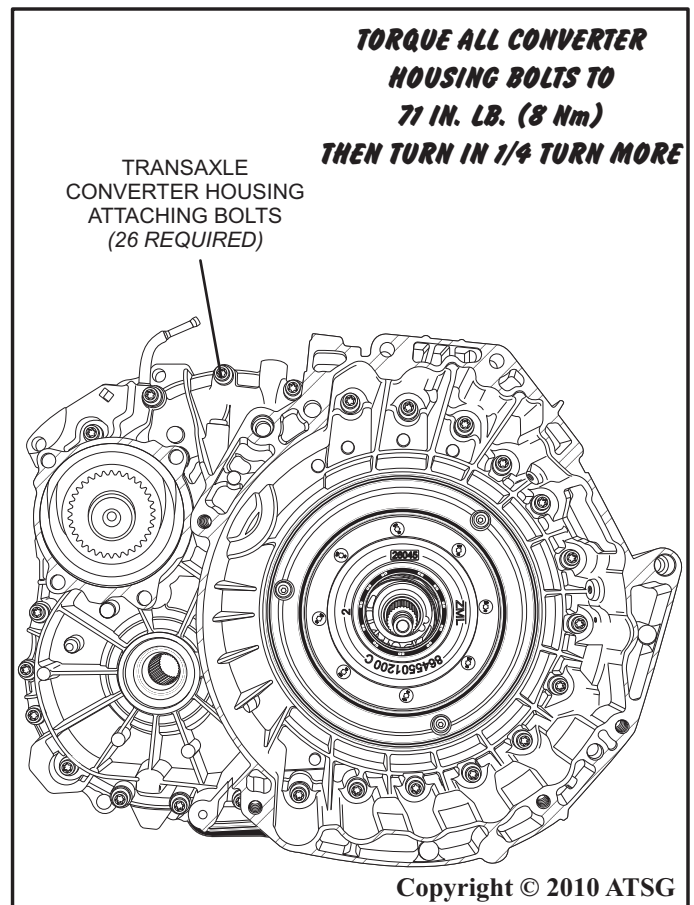

Figure 23
57. Install new converter housing attaching bolts (26 required) as shown in figure 23.